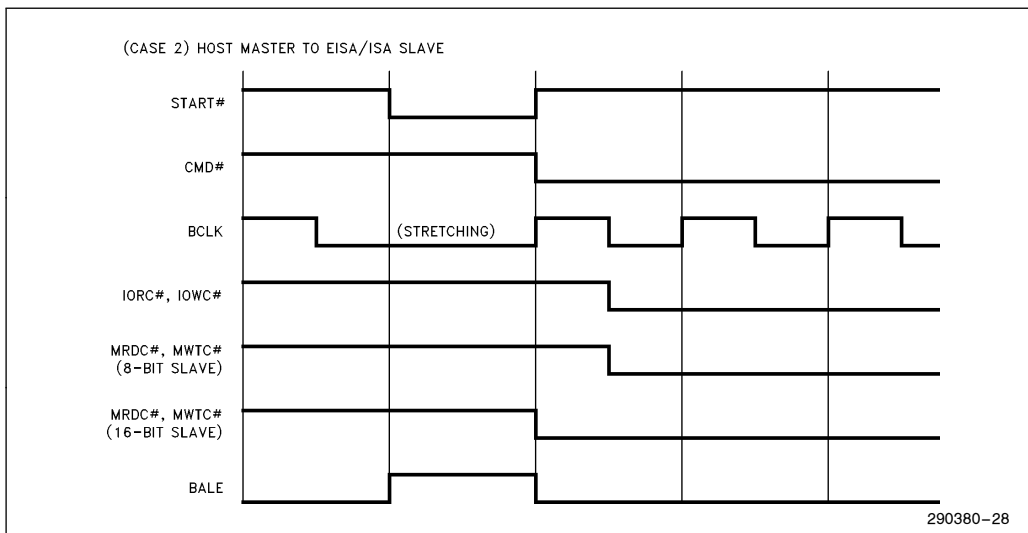

Figure 4-18. BCLK Stretching During Host Master to EISA/ISA Slave Cycles
- 2) When a Host bus master is accessing an EISA or ISA slave, the rising edge of BCLK is synchronized to the falling edge of CMD# (refer to Figures 4-18, 4-20, and 4-21).